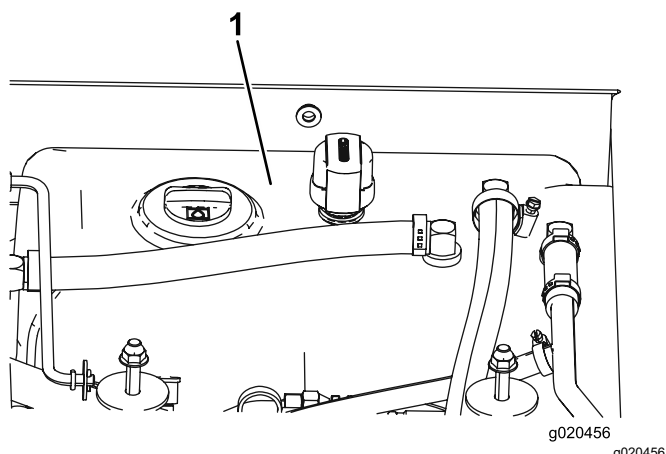

Figure 79
4. Fill the reservoir (Figure 79) with hydraulic fluid; refer to Checking the Hydraulic Fluid (page 64).